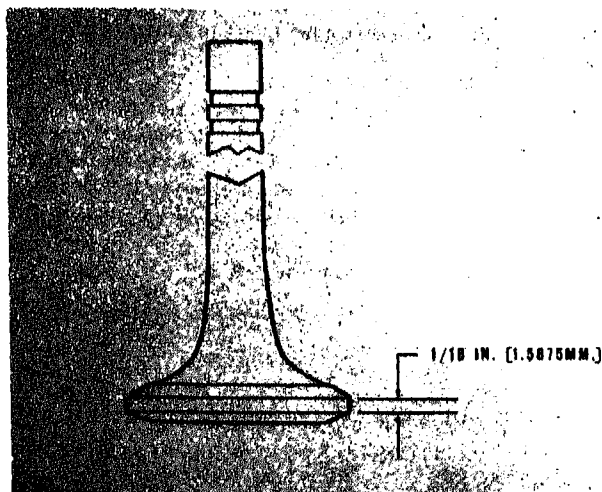

Fig. 2-5-1. Minimum valve head rim thickness
1. Heads are cupped, cracked, pitted or worn too thin to grind within limits. Check valve head rim thickness (A, Fig. 2-5-1); it should be a minimum of  $\frac{1}{16}$  in. [1.5875 mm].
Check rim thickness as shown in Fig. 2-5-1. If rim is less than  $\frac{1}{16}$  in. [1.5875 mm], valve is not suitable for use because of danger of burning and cupping.